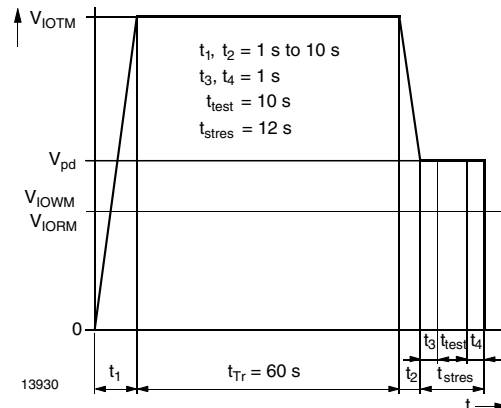

Fig. 5 - Test Pulse Diagram for Sample Test According to DIN EN 60747-5-5 (VDE 0884-5); IEC60747-5-5
- According to DIN EN 60747-5-5 (see Fig. 5). This optocoupler is suitable for safe electrical isolation only within the safety ratings. Compliance with the safety ratings shall be ensured by means of suitable protective circuits.